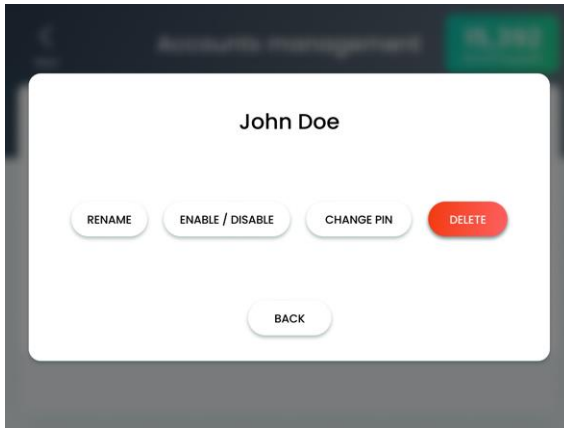

Figure 6-9. Selected User's Account Screen
2. In the Accounts screen, tap the User entry whose password is to be changed; the selected user's Account screen appears, as shown in Figure 6-9.